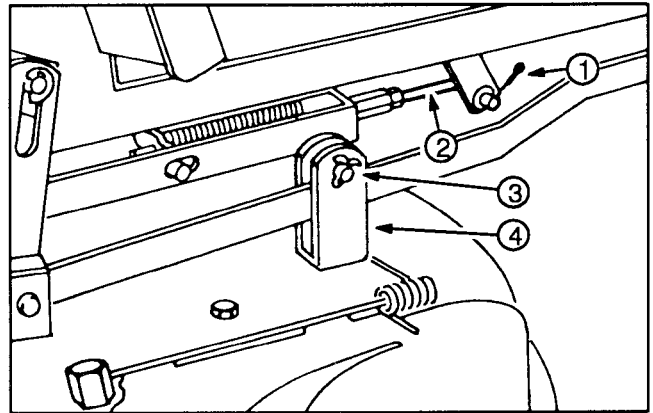

Figure 24
3. Remove the cotter pin from the adjustment rod and pull it from the pivot tube arm (Fig. 24).
2. Remove the cotter pin from the adjustment rod (Fig. 24).